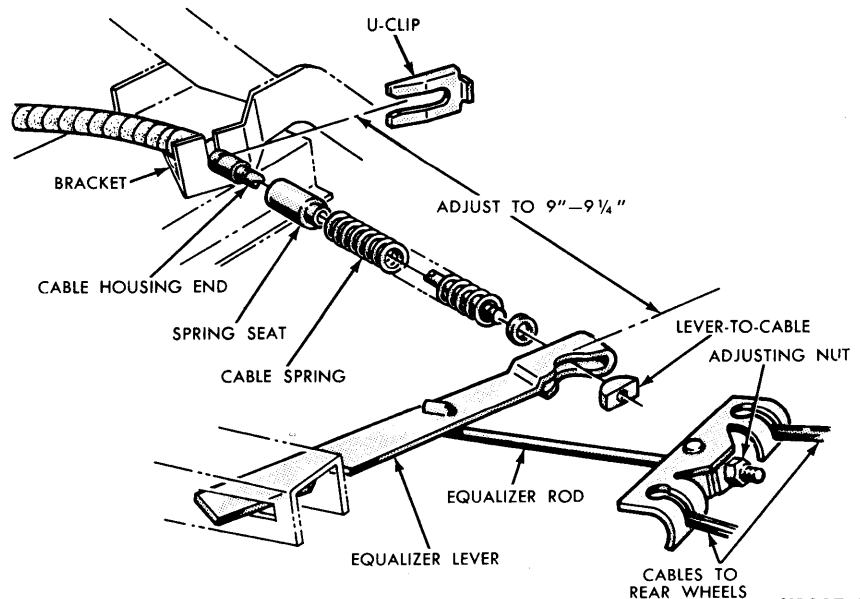

FIG. 1—Parking Brake Adjustments
3. Adjust the equalizer lever against the cable spring on the pedal cable to the dimension shown in Fig. 1.
6. While turning the rear wheels in a rearward direction, turn the adjusting nut against the equalizer until a moderate drag is felt (Fig. 1).